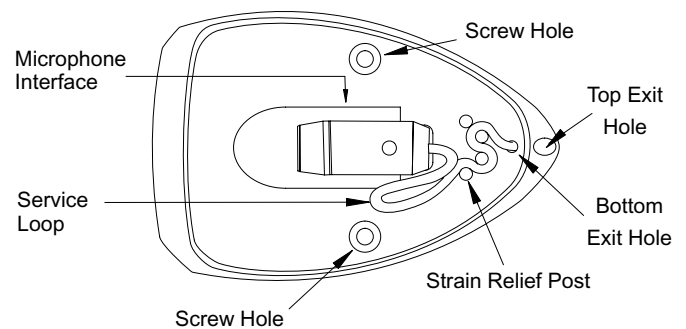

FIGURE 1
3. Re-route cable as shown in Figure 1.